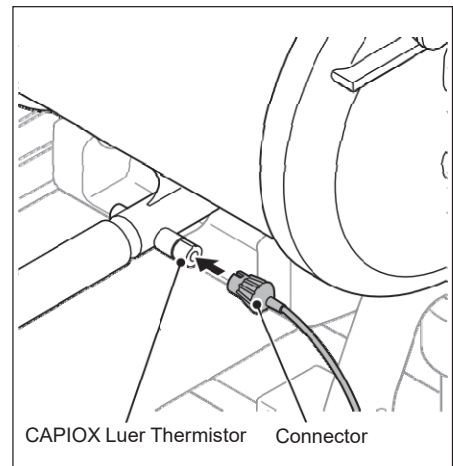

Figure 1-38
1. Attach the connector of the Temperature Sensor Cable to the CAPIOX Luer Thermistor which is connected to the extracorporeal circulation circuit line. (Figure 1-38)